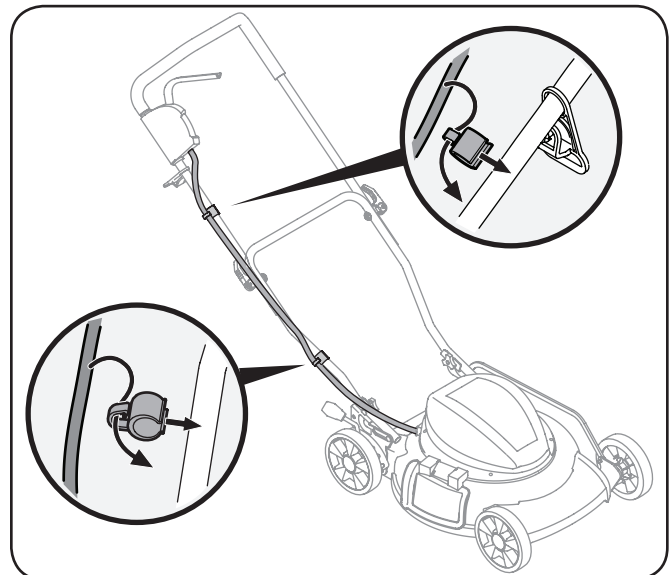

Figure 3-5
1. Snap one cord guide onto the lower handle. See Fig. 3-5.
2. Snap the other cord guide onto the upper handle below the cord retainer. See Fig. 3-5.